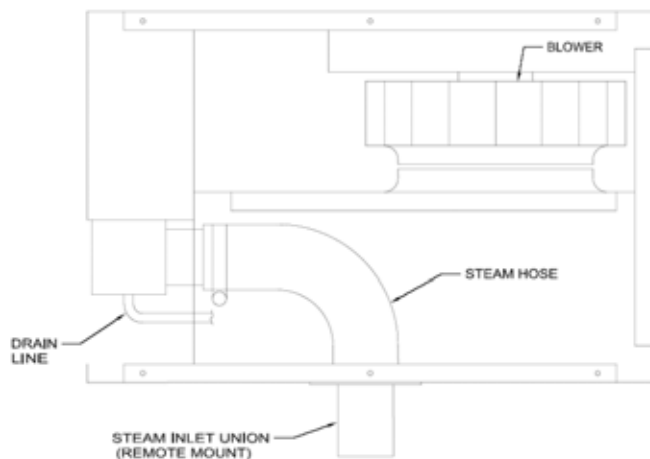

Figure 9 - Side View
3. The steam hose(s) is to be connected using the steam inlet union(s) (Figure 9).